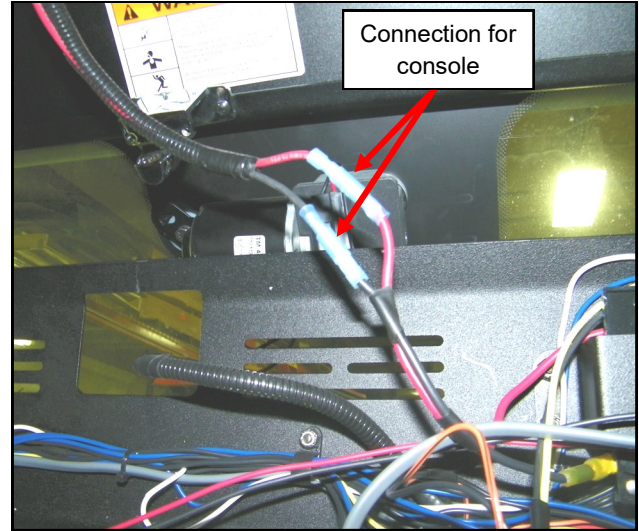

Fig. 3.1
- 3.1 Unplug the cab power wire from the wiper motor. Connect the cab power wire to the short harness (without wire loom) inside console from the fuse block. See figure 3.1.